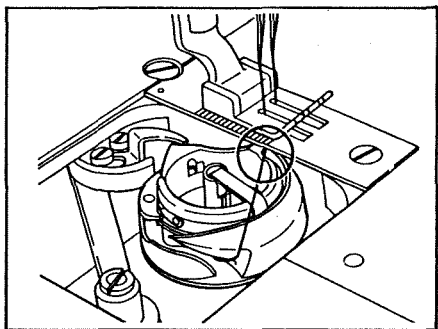
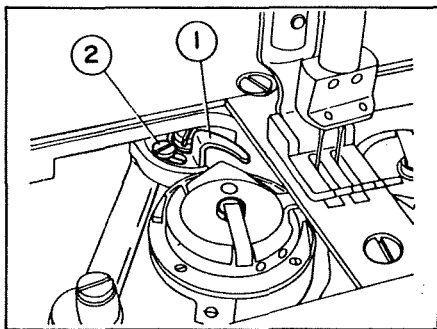

Fig. 19
Fig. 20
Adjust the position of the bobbin case opening lever (① of Fig.20) so as to open the bobbin case holder allowing the thread to pass through depending upon the thickness of such thread at the moment when the needle thread is pulled up along the bottom surface of throat plate as shown in Fig.19. To adjust the said lever, loosen the screw (② of Fig.20), obtain a correct position and finally tighten the screw. You must be careful not to allow it to open the bobbin case holder too much, or the sewing hook may make a high noise and shorten it's lifetime.